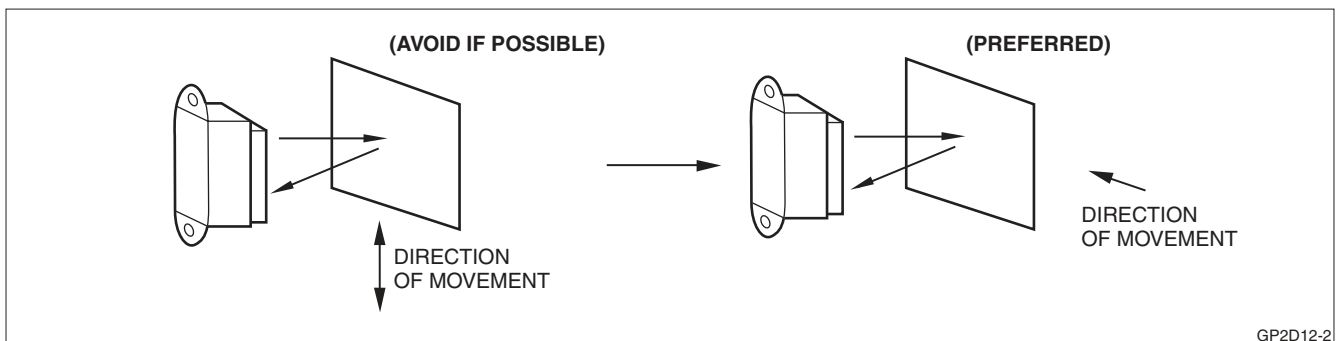

Figure 7. Proper Alignment to Moving Surfaces
- When measuring the distance to objects in motion, align the sensor so that the motion is in the horizontal direction instead of vertical. Figure 7 illustrates the preferred alignment.